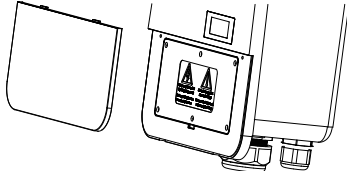

Fig. 5-6 Remove decorative cover
1. Open the decorative cover and the sealing cover as shown in Figs. 5-6 and 5-7.